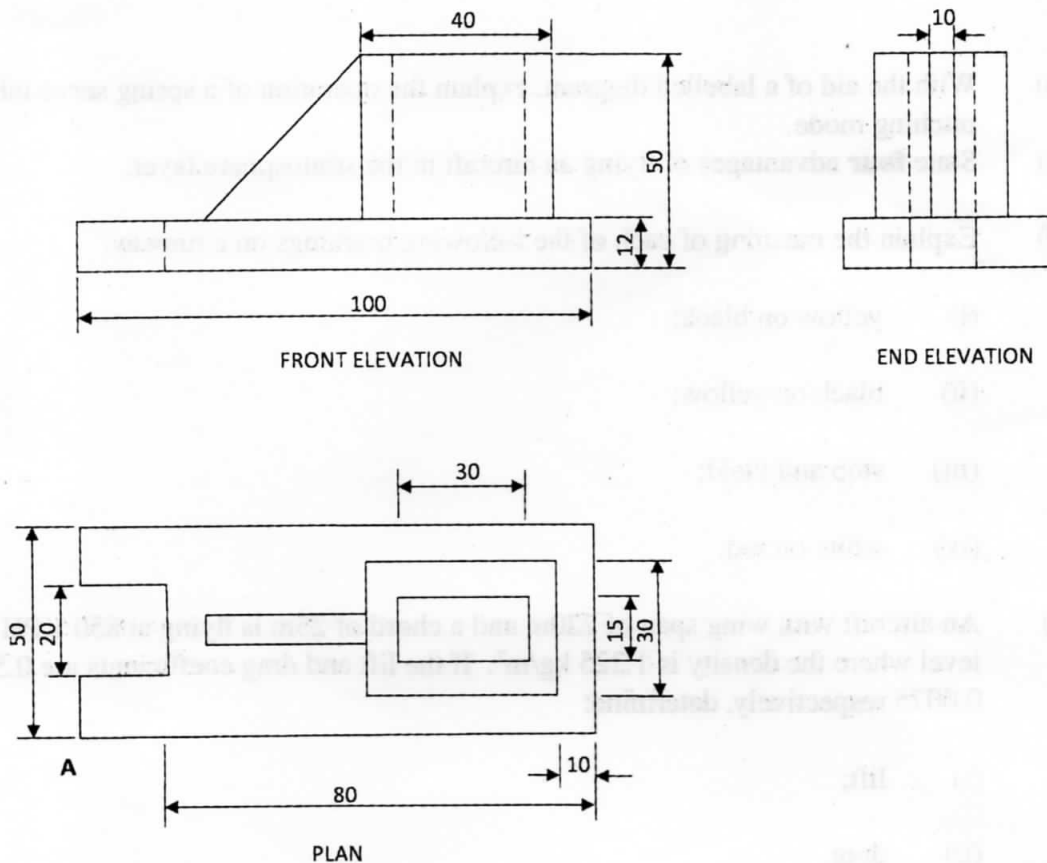

Figure 2
- 11 Figure 2 shows the three orthographic views of an aircraft engine bracket drawn in first angle projection.